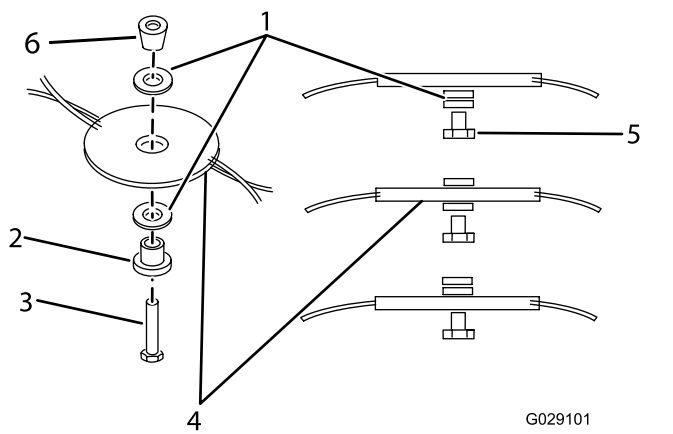

Figure 23
4. Remove the flexi blade by turning the bolt counterclockwise (Figure 23), saving all the mounting hardware.
5. Install the new flexi blade by turning the bolt clockwise (Figure 23), and install all the mounting hardware.